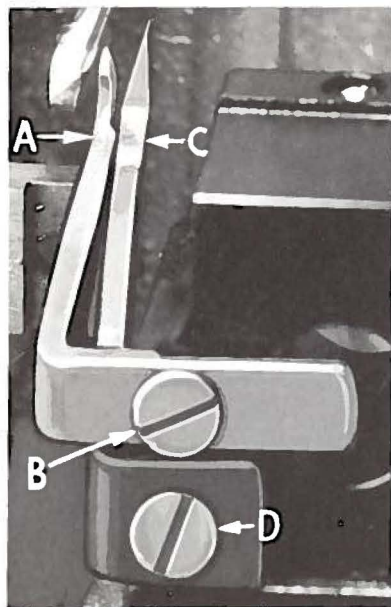

Fig. 5
Set rear needle guard (A, Fig. 5) as high as possible, without interfering with either lower looper or movement of lower knife holder, but still in position to deflect needle forward - .002 - .004 inch. Screw (B) is used to set rear needle guard. Make sure there is no interference between rear needle guard and lower looper.
Assemble front needle guard (C, Fig. 5). When lower looper is springing needle off back guard, set front needle guard as close as possible to needle without touching. Screw (D) is used to adjust and set front needle guard. After this setting make sure there is no interference between needle guards and differential feed dogs.